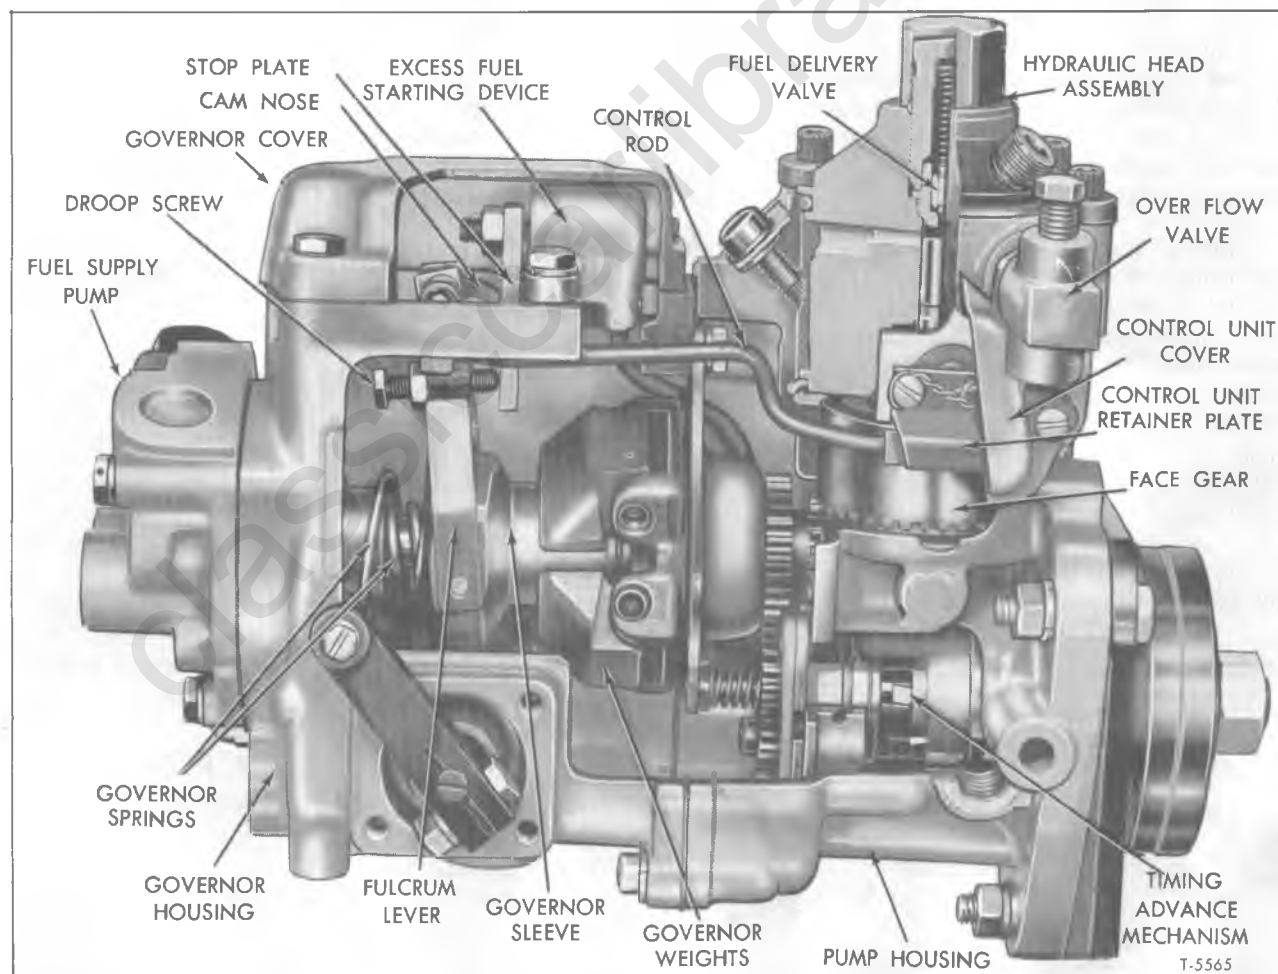

Figure 32—Cut-Away View of Fuel Injection Pump
1. Place fuel delivery valve assembly and gaskets in position in hydraulic head cavity (fig. 32), then position the delivery valve spring over pilot on the delivery valve.
NOTE: Control unit and rod are held in place by a retainer plate which is attached by two screws equipped with lock wire. Control unit and rod retainer plate is shown in figure 32.
7. Assemble the control unit retaining plate, screws (with lock washers), and spacers (fig. 32), then install parts to retain the control unit. Tighten screws to 18 to 33 inch-pounds. Install lock wire through screw heads as shown in figure 32. The retaining plate (fig. 32) retains the control unit and also prevents control rod from becoming disengaged from lever.